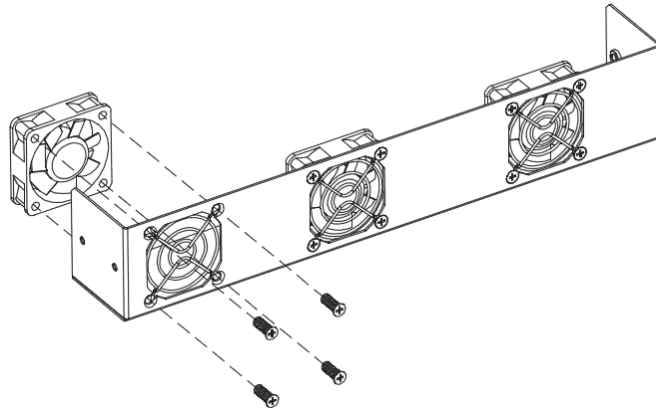

Figure 5.3 Replace the Fan
- (8) As shown in Figure 5.3, remove the damaged inverter fan, install the good fan to the original position, and connect the fan power supply and control cable.